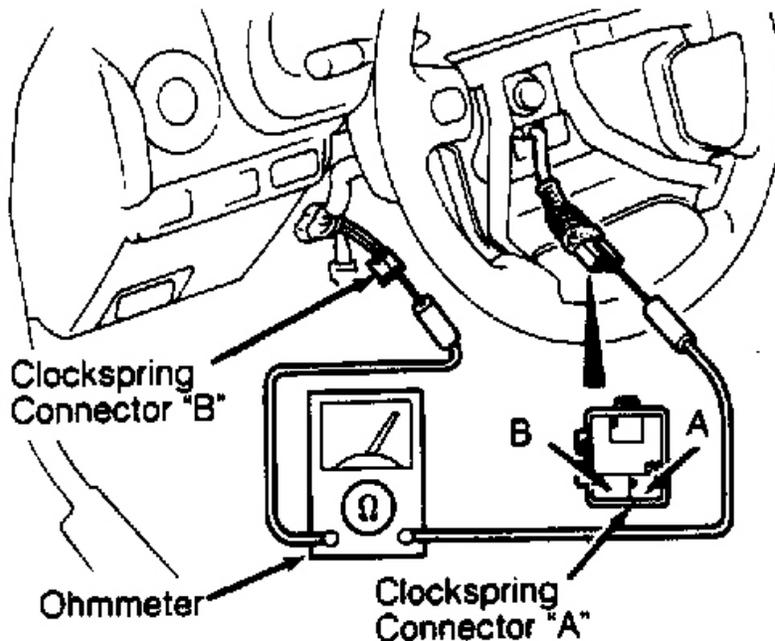

Fig. 14: Checking Resistance at Clockspring Terminal
2. If connection is okay, disconnect air bag module and clockspring connector. Check continuity, as shown in illustration, for both terminals of Blue side of clockspring connector. See **Fig. 14** . If continuity is not present, replace Orange/Blue clockspring connector.